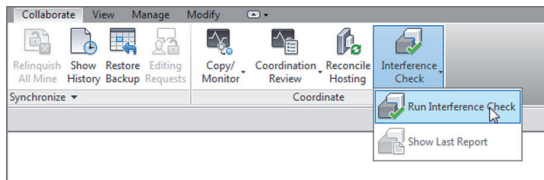

FIGURE BC6.15: Run Interference Check on the Coordinate panel of the Collaborate tab
1. On the Coordinate panel of the Collaborate tab, select Interference Check > Run Interference Check, as shown in Figure BC6.15.